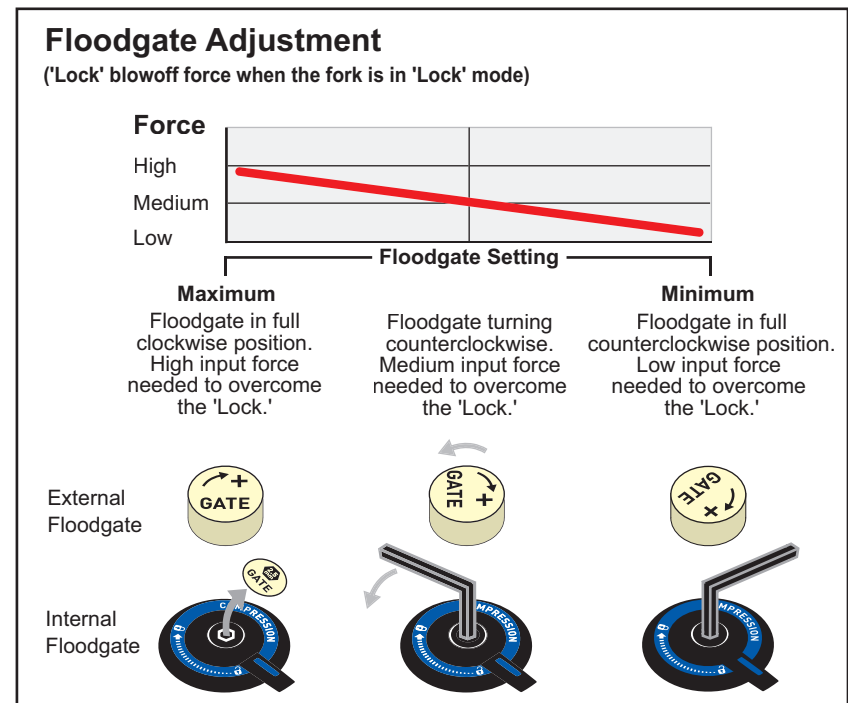

Fig. 3
**FLOODGATE ADJUSTMENT (FIG. 3)**